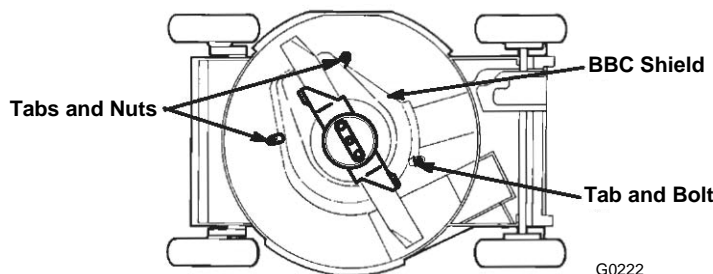

Figure 25
5. Remove the blade nuts, the anti-scalp cup, the accelerator, and the blade (Fig. 25).
6. Loosen the tabs that secure the BBC shield to the deck by loosening the nuts or the bolts on the tabs (Fig. 25). Rotate the tabs 180° to move them out of the way.